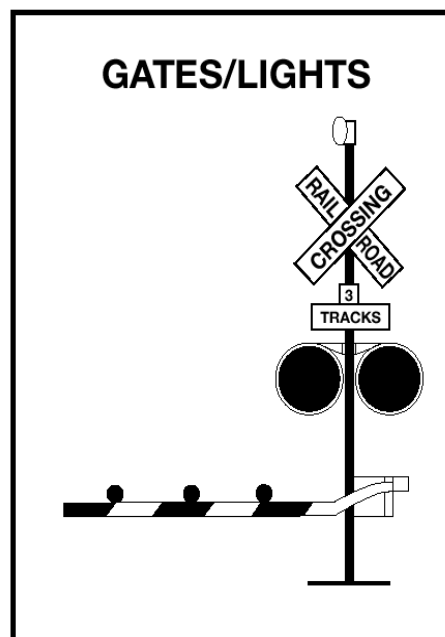

Figure 10.8
**Flashing Red Light Signals.** At many highway-rail grade crossings, the cross-buck sign has flashing red lights and bells. When the lights begin to flash, stop! A train is approaching. You are required to yield the right-of-way to the train. If there is more than one track, make sure all tracks are clear before crossing. See Figure 10.8.
**Gates.** Many railroad-highway crossings have gates with flashing red lights and bells. Stop when the lights begin to flash and before the gate lowers across the road lane. Remain stopped until the gates go up and the lights have stopped flashing. Proceed when it is safe. If the gate stays down after the train passes, do not drive around the gate. Instead, call your dispatcher. See Figure 10.8.